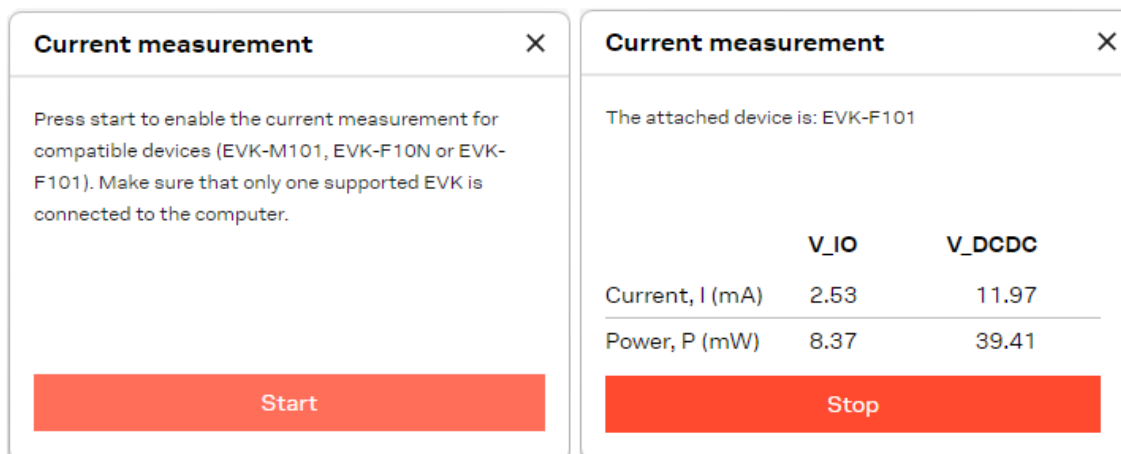

Figure 5: u-center 2 current measurement window
3. To start the current measurement, press the **Start** button as depicted on the left-hand side of Figure 5. The **Current measurement** window continuously updates the V_{IO} and DC-DC converter input current values. To finish the continuous current measurement, press the **Stop** button.